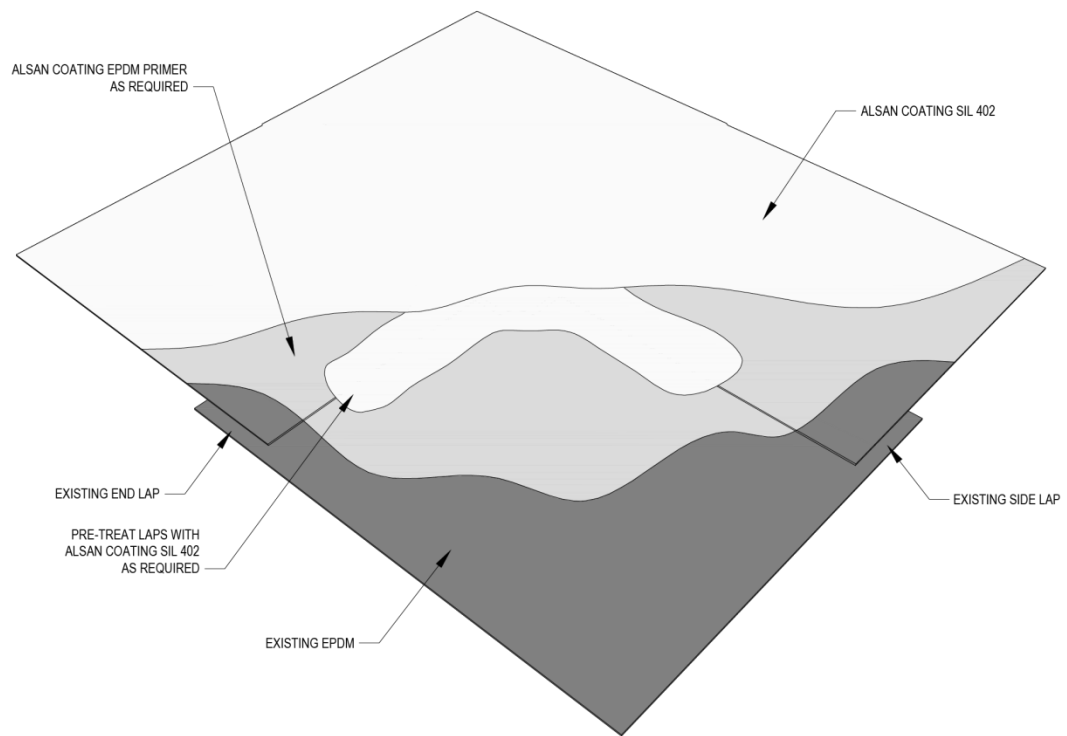

Figure 2.1e Silicone Roof Coating Over EPDM, Side/End Laps
- Refer to flashing detail guidelines indicated in Figures 2.1e through 2.1h.